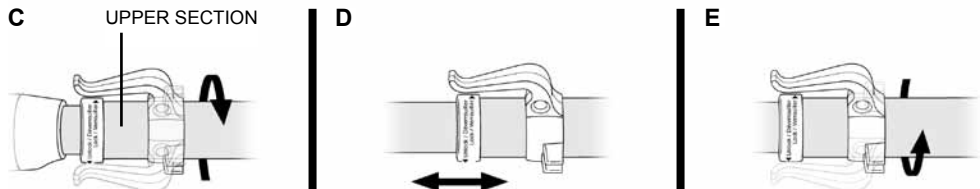

FIGURE 1
1. Insert threaded connector on bottom of Extension Pole into pole base on main unit (FIGURE 1-A).
2. Rotate Extension Pole in a clockwise direction as shown to screw it into pole base (FIGURE 1-B). Make sure Pole is tightly secured to main unit.
- A) Rotate upper (thicker) section of Extension Pole in "UNLOCK" direction indicated on label to unlock it (FIGURE 1-C).
- B) Adjust upper section to desired length (FIGURE 1-D).
- C) Rotate upper section of Extension Pole in "LOCK" direction indicated on label to lock it back in place (FIGURE 1-E).